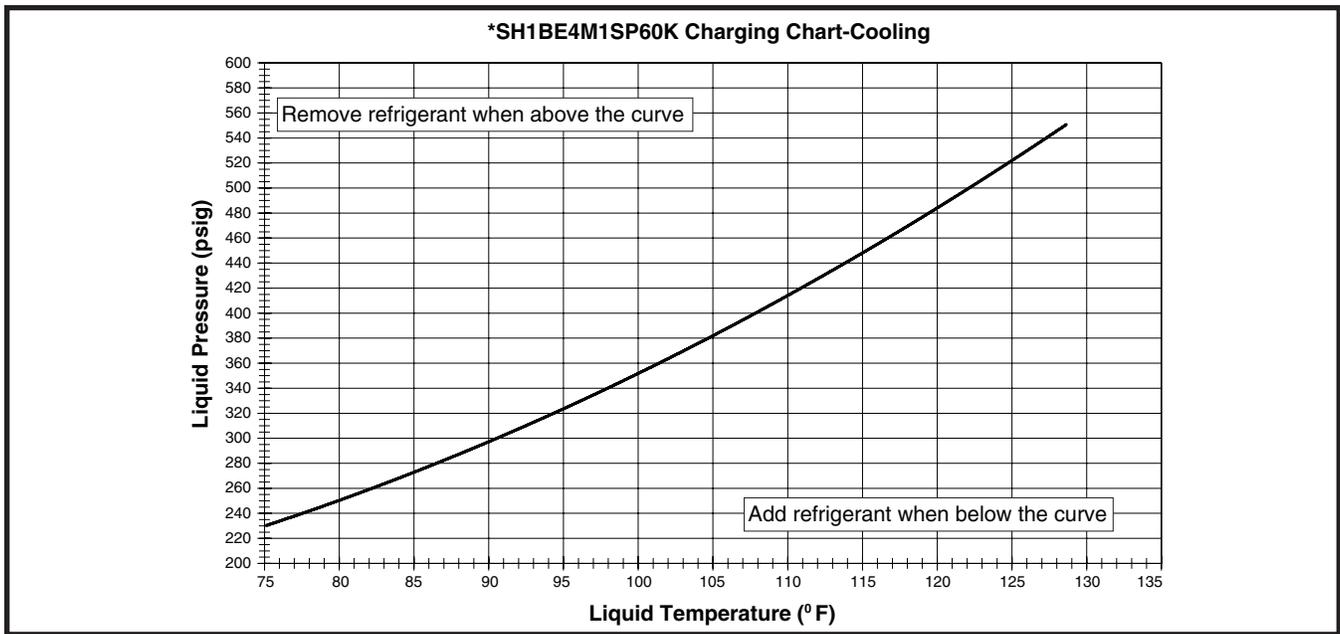

Figure 14. Charging Chart for 5 Ton Models (TXV Matches)
For correct system charging, refer to Figure 8 \(page 11\), Figure 9 \(page 11\), Figure 10 \(page 12\), Figure 11 \(page 12\), Figure 12 \(page 13\), Figure 13 \(page 13\), & Figure 14 \(page 14\) and Table 6 \(page 14\), Table 7 \(page 15\), Table 8 \(page 15\), Table 9 \(page 16\), Table 10 \(page 16\), Table 11 \(page 17\), & Table 12 \(page 17\).
3. Determine the required liquid refrigerant pressure from Figure 8 \(page 11\), Figure 9 \(page 11\), Figure 10 \(page 12\), Figure 11 \(page 12\), Figure 12 \(page 13\), Figure 13 \(page 13\), & Figure 14 \(page 14\).
- Charging charts are valid for a variety of indoor, return air conditions and are most influenced by the outdoor ambient temperature, outdoor fan operation and the unit operating voltage. Before using these charts, make sure the unit is in a stable operating mode. As shown in the charging charts: Figure 8 \(page 11\), Figure 9 \(page 11\), Figure 10 \(page 12\), Figure 11 \(page 12\), Figure 12 \(page 13\), Figure 13 \(page 13\), & Figure 14 \(page 14\), the ideal system sub-cooling can vary over the range of operation. Reference the charts to determine the ideal amount of sub-cooling for a given liquid pressure. Units charged to other values will not perform at the rated unit efficiency (EER) or rated Coefficient of Performance (COP) in heating mode.